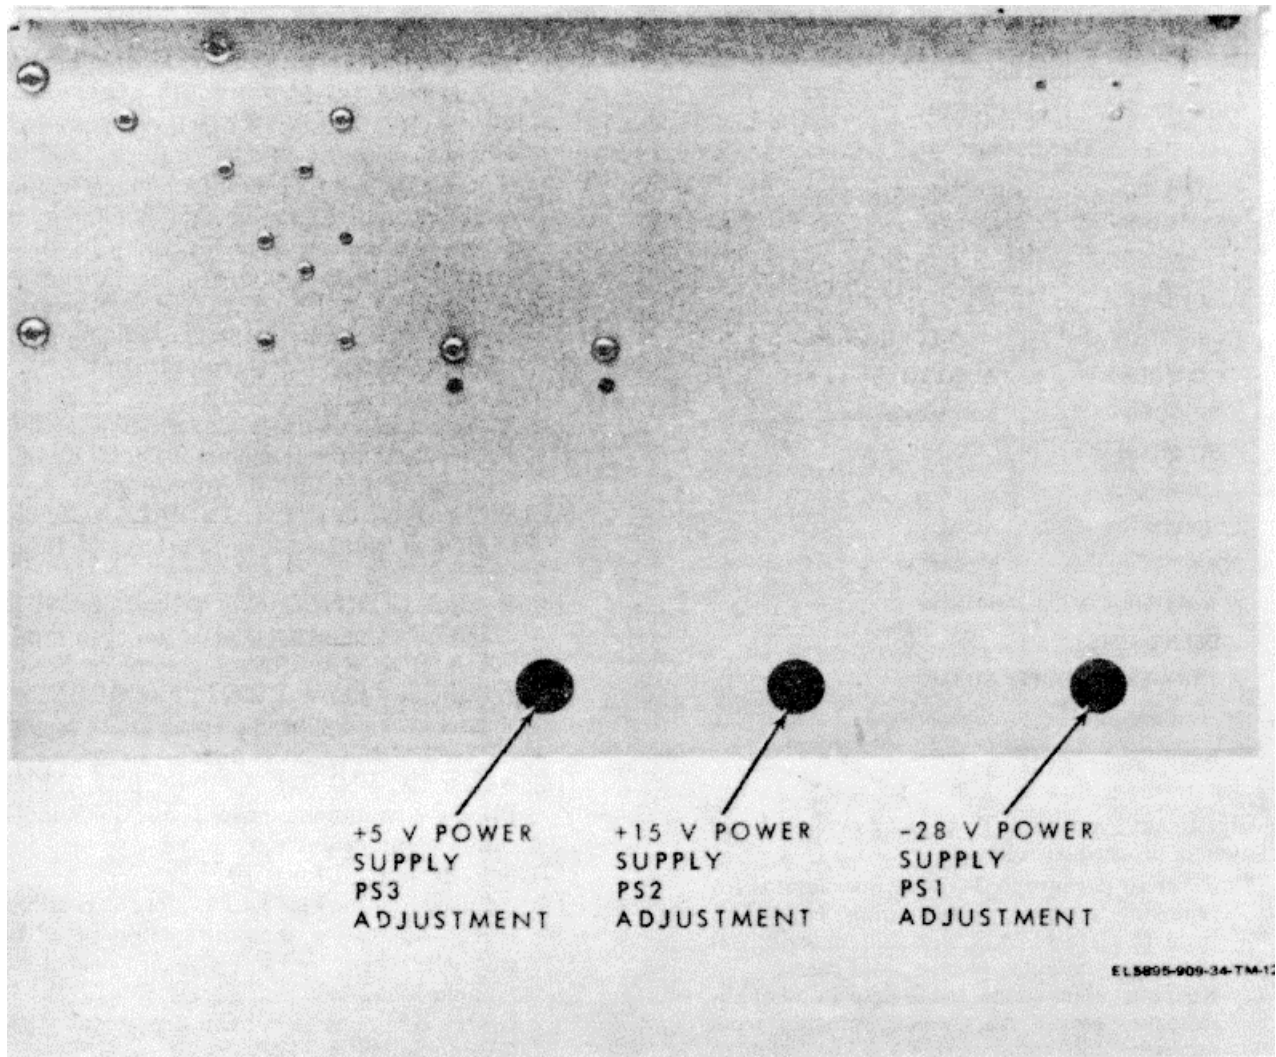

Figure 3-8. Receiver gain monitor HTA-3A6 power supplies adjustment location.
3-62. 28, +5, and +15 V dc Power Supplies, Adjustment of Output Voltage (fig. 3-8).
d. **Adjustment Procedures** (fig. 3-8). To adjust output voltage of 28, +5, and +15 V dc power supplies, proceed as follows:
- (1) Refer to paragraph 3-39 for instructions for removing the receiver gain monitor HTA-3A6 from the rf plate HTA-3 and removing the receiver gain monitor chassis from case.
- (2) Reconnect power cable at connector J1.
- (3) Set FAN, 28VPS, and 5/15VPS CIRCUIT BREAKERS to ON. Allow receiver gain monitor and multifunction meter a 10minute warmup period.
- (4) Loosen the two captive screws and swing front panel open.
- (5) Connect black lead from black X input connector on multifunction meter to black test point on front panel of receiver gain monitor HTA3A6.
- (6) Connect the red lead from the red X input connector on multifunction meter to power supply selector switch S5 terminal listed below to check the power supplies output voltage.